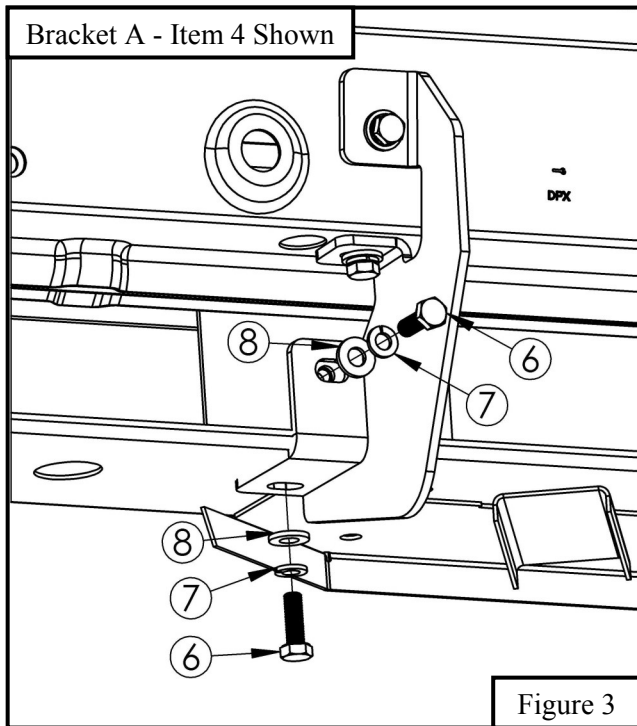

Figure 3
4. For Step Board installation to the previously installed mounting brackets use the supplied M8 hardware. Loosely install with the provided M8 hardware. **See Figure 3 & Figure 4.**